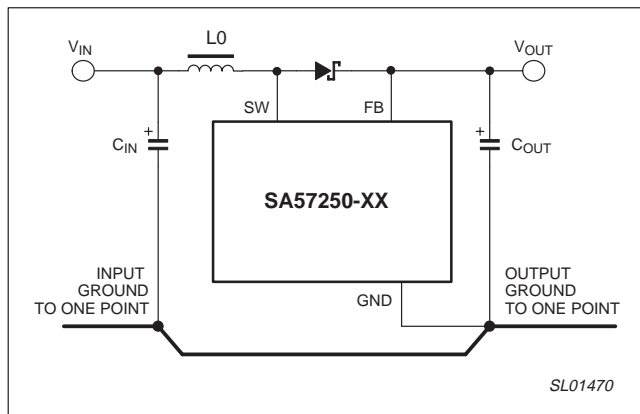

Figure 31. Grounding trace for converter.
The input and output capacitors are the only source or sink of the high frequency currents found in a switching power supply. All connections to the switching power supply from the outside circuits should be made to the input or output capacitor terminals (+ and -). Internally, the layout should adhere to a "one-point" grounding system, as shown in Figure 31.
- Strictly adhere to the one-point wiring practices shown in Figure 31.